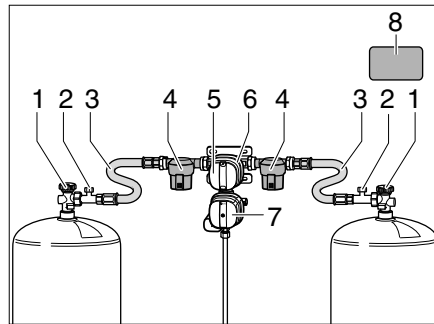
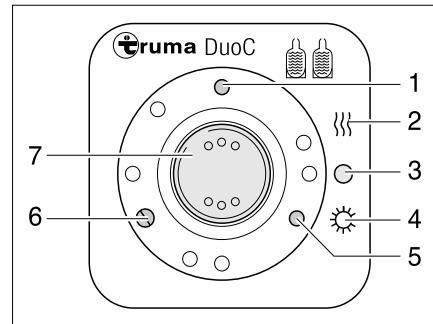
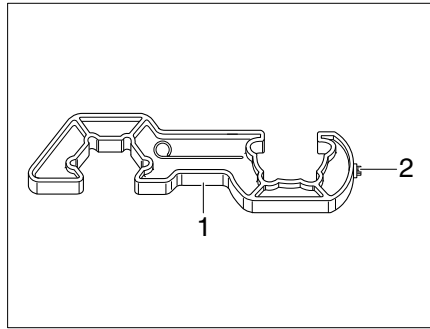
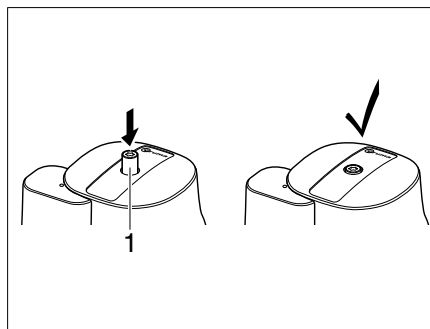

Fig. 243 DuoControl switching facility
Fig. 244 Operating unit
Fig. 246 Screw aid
Fig. 247 Crash sensor
The DuoControl switching facility consists of a switching valve (Fig. 243,6) and the operating unit (Fig. 244). The switching valve is mounted between the high-pressure hoses (Fig. 243, 3). The knob (Fig. 243,5) on the switching valve is used to select which of the gas bottles is to be used as a primary bottle and which is to be used as a reserve bottle.
The switching valve (Fig. 243,6) is equipped with the regulator defroster "EisEx". This prevents damage to the gas system during the winter months.
A gas filter (Fig. 243,4) that protects the gas system against oil and other contamination is located on each side before the switching valve.
Only the electrical functions can be switched at the operating unit (Fig. 244). The regulator taps (Fig. 243,1) on the gas bottles must be opened manually.
The switching valve provides a constant gas pressure, regardless of which gas bottle is being drawn upon. The two indicator lamps on the operating unit show the filling level of the primary bottle. The primary bottle is full when the green indicator lamp (Fig. 244,6) lights up. The primary bottle is empty when the red indicator lamp (Fig. 244,5) lights up. The gas is then supplied via the reserve bottle.
- Open the regulator taps (Fig. 243, 1) on the gas bottles.
- Use the knob (Fig. 243,5) on the switching valve (Fig. 243,6) to select the gas bottle which is to be the primary source of gas (primary bottle). Always turn the knob as far as it will go.
- Set the rocker switch (Fig. 244,7) to "O" (Fig. 244,3). The yellow indicator lamp (Fig. 244,1) goes out.
- Close the regulator tap (Fig. 243,1) on the gas bottles.
The indicator lamps on the operating unit (Fig. 244,5 and 6) indicate in the vehicle interior whether the primary bottle is ready for operation.
If the green indicator lamp (Fig. 244,6) goes out during operation and the red indicator lamp (Fig. 244,5) lights up, the gas bottle selected as the primary bottle is empty and has to be replaced. The reserve bottle continues supplying the gas appliances with gas.
- ▷ Use the enclosed screw aid (Fig. 246,1) to connect and disconnect the high-pressure hoses. It ensures the required tightening torque and prevents damage to the screw connection through using unsuitable tools.
- Close the regulator tap (Fig. 243, 1) on the empty gas bottle.
- Unscrew the high-pressure hose (Fig. 243,3) from the gas bottle using the screw aid (Fig. 246).
- Connect the full gas bottle to the high-pressure hose (Fig. 243,3).
- Open the regulator tap (Fig. 243, 1) on the gas bottle.
- Set the knob (Fig. 243, 5) on the switching valve (Fig. 243, 6) with half a turn, so that the newly replaced gas bottle will serve as a reserve bottle.
- Press the button (Fig. 243, 2) for the hose break guard at the high-pressure hose to activate it.
- If necessary, press the reset button (Fig. 247, 1) at the crash sensor.
- ▶ Observe the safety label (Fig. 243, 8) in the gas bottle compartment.
- Use the Torx T20 (Fig. 246,2) at the screw aid to press in the safety release knob (Fig. 247,1), turn it slightly clockwise and hold it for 5 seconds. The crash sensor is ready to operate when the safety release knob (Fig. 247,1) remains in the lowered position.
- After replacing the gas bottle press the green button (Fig. 243,2) at the high-pressure hose (Fig. 243,3) vigorously.